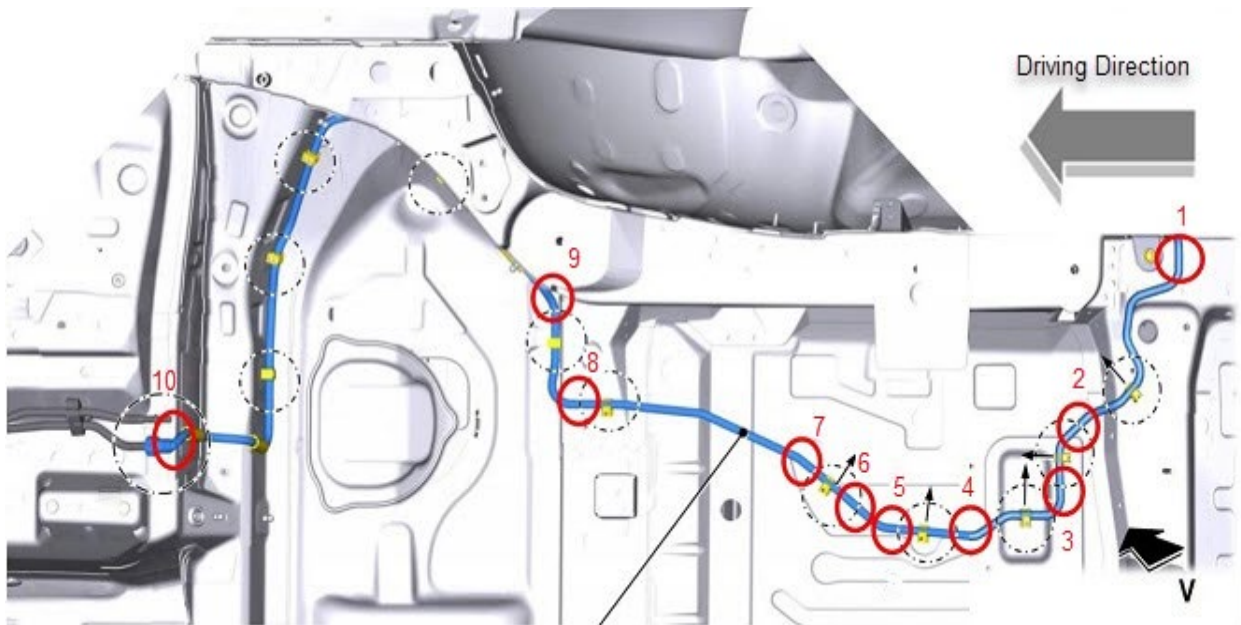

Figure 4: Vehicles without air suspension and without rear wheel steering (PR no. 1BL) - 10 sleeves.
2. The number of sleeves depends on the equipment version of the vehicle (PR number) when it was manufactured. Use the following overviews (figures 4, 5, and 6) to determine how many sleeves are required and their positions.